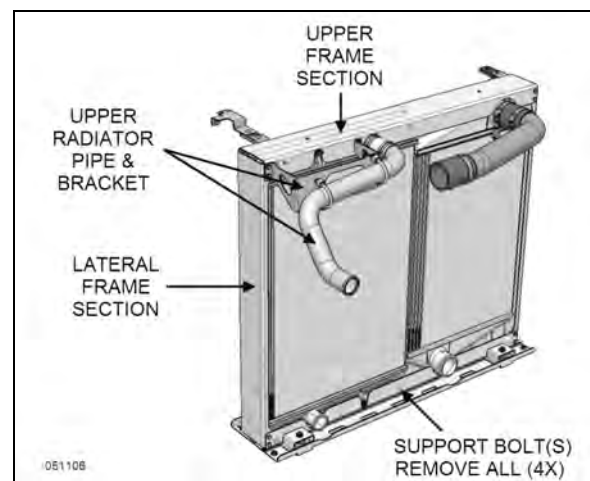

**FIGURE 38: UPPER SUPPORTS MOUNTING BOLTS**
18. Unscrew the two upper supports from the vehicle structure so they will be removed with the cooling assembly (Figure 38).